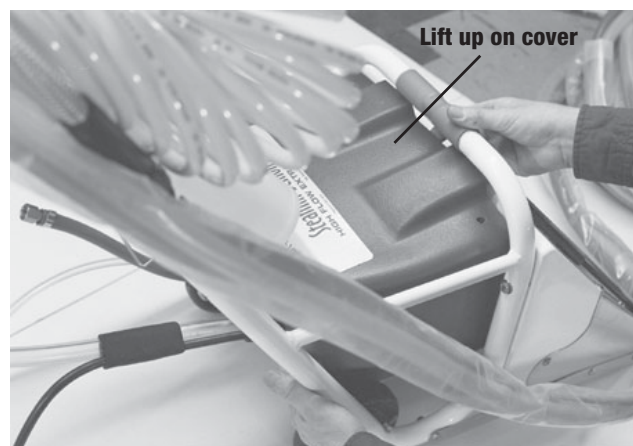

Figure 3
4. Unscrew black thumb knobs from top of engine compartment cover. Lift top of cover straight up off of bolts and pull it back (fig. 3 and 4).